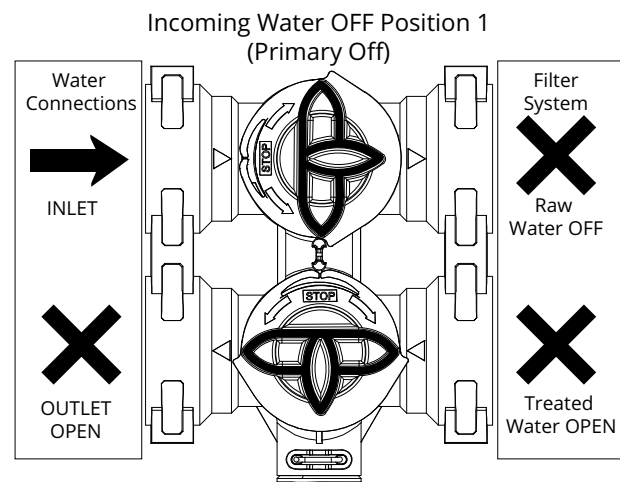

FIGURE 2
7. With OptiPure Multi-Function Valve set in the off position (See Figure 2 on page 10) and Scale Reduction Outlet ball valve being closed, slowly open the full-flow ball valve at the water source.
4. Turn Multi-Function Valve to the Off Position. (See Figure 2 on page 10.)
1. On Multi-Function Valve Turn Upper handle to the OFF Position. (See figure 2 on page 10)